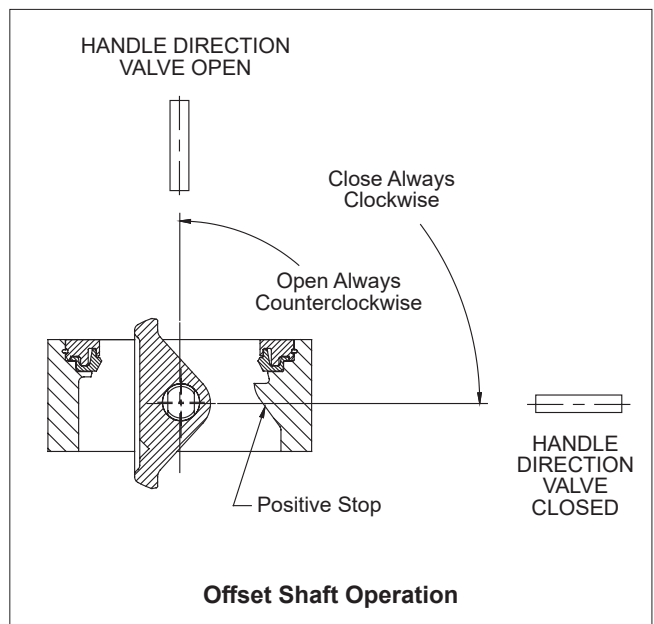

Figure 1.
One of the design features of the Cryogenic *Wafer-Sphere* valve that is responsible for its superior performance is the valve's offset shaft design. The shaft is offset in two planes: (1) away from the valve disc centerline and (2) behind the disc sealing plane (See **Figure 1**). Offset shaft design makes the rotating disc "cam" back and away from the seat, completely eliminating the usual wear points at the top and bottom of the seat. Because the disc rotates off the seat in an eccentric arc, it operates in one quadrant only (See **Figure 1**).
To prevent seat damage from over-travel of the disc beyond the closed position (usually during field mounting of a handle or actuator), a "positive stop" feature has been designed into the Cryogenic *Wafer-Sphere* butterfly valve. The "positive stop" feature also makes it possible to adjust the actuator travel stops in-line. The location of this feature is shown in (**Figure 1**).
4. Before installing a closed valve in the pipeline, be sure that the handle or actuator is attached so that a counter-clockwise rotation, viewed from above, opens the valve (**See Figure 1**). Fully close the valve again before installing in the pipeline.